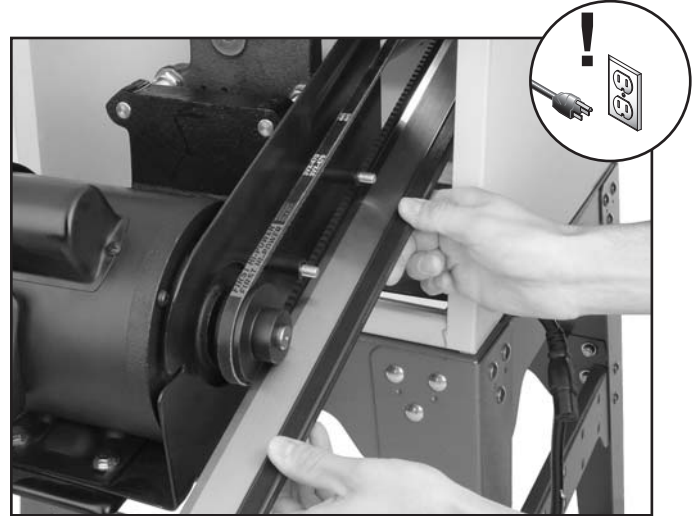

Figure 19. V-belt alignment.
10. Place a straightedge across the arbor pulley and motor pulley as shown in **Figure 19**.